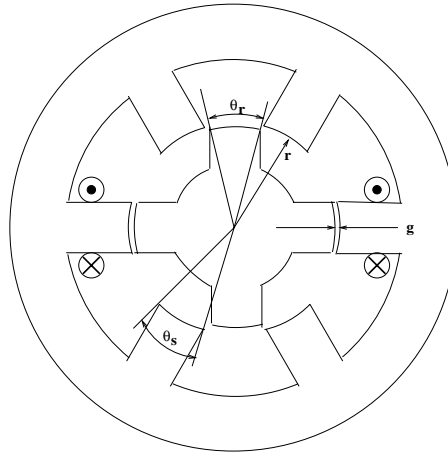
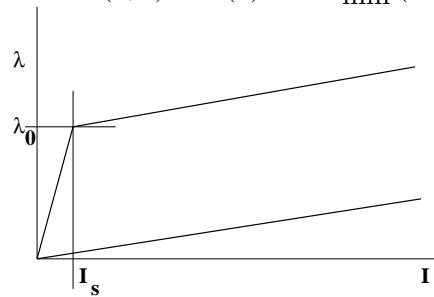
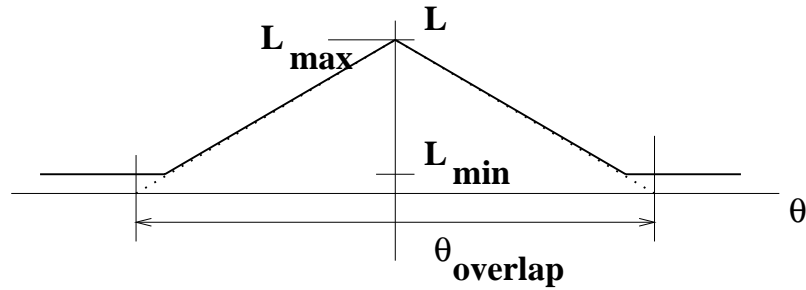

Figure 1: Crude Cartoon of a Variable Reluctance Machine
Figure 2: VRM Saturation Characteristic
Figure 3: Inductance vs. Alignment Angle
Figure 1 is a very crude picture of a “6-4” variable reluctance motor. The objective of this problem is to take a first-order look at operation of this machine. To start, assume that the flux vs. current pattern of the machine is as shown in Figure 2. For currents less than some “saturation” level, inductance of one winding of the motor is as shown in Figure 3. For currents greater than the “saturation” level, the incremental inductance is some lower level L_{sat} which is not a function of rotor position, so that flux is:
- Using Figures 2 and 3, calculate current in the one phase winding as a function of rotor angle and with flux as a parameter. Use values of flux of 0.2, 0.4, ... 2.0 Wb, and a range of angles from $-\pi/2$ to $\pi/2$.